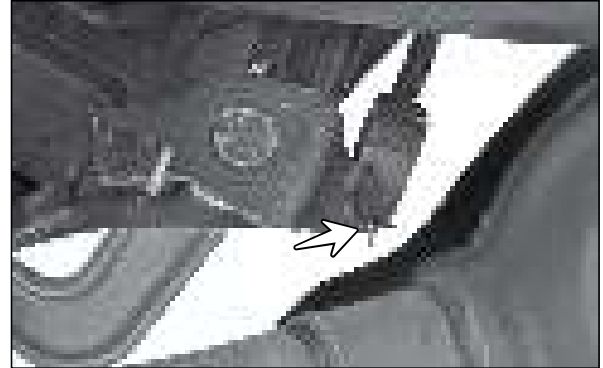

Fig. 6.128
- Remove the split pin and take out cotter pin from the rear master cylinder. (Fig. 6.128)